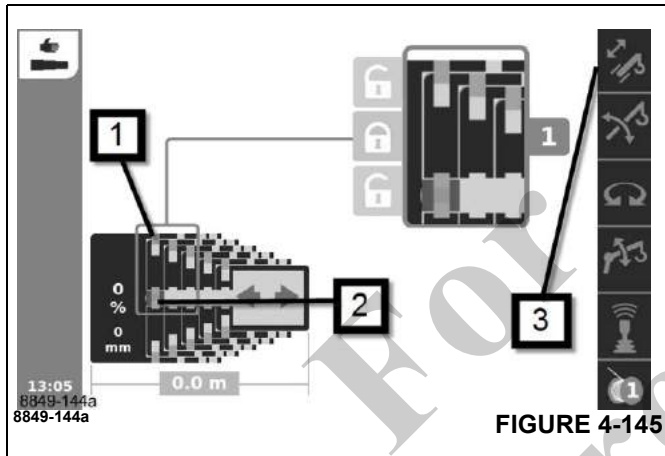

FIGURE 4-145
- Refer to (Figure 4-145).
- Telescoping mechanism ON – symbol (3), (Figure 4-145) green.
- Telescoping cylinder locked – symbol (2) green.
- Telescopic section unlocked – symbol (1) red.